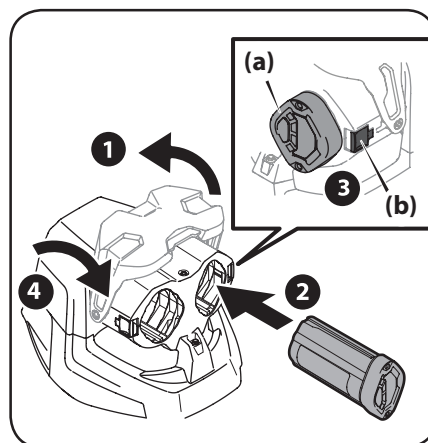

Figure 2-10
2. Slide the battery into the active (left side) battery port so that the battery indicator light faces away from the battery latch. See Figure 2-10.